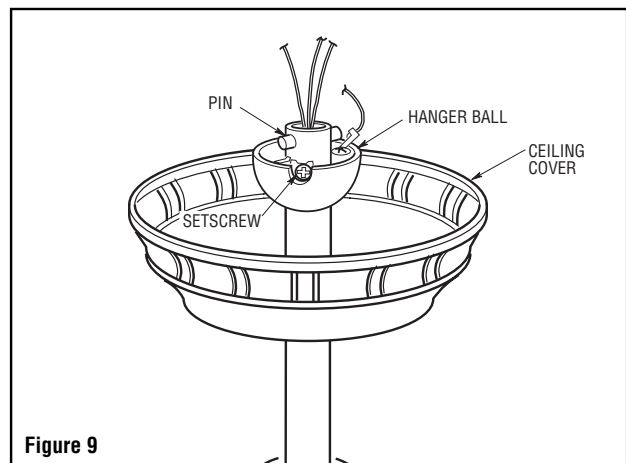

Figure 9
11. Reinstall the hanger ball (Figure 9) on the downrod as follows. Route the three 80" motor leads through the hanger ball. Position the pin through the two holes in the downrod and align the hanger ball so the pin is captured in the groove in the top of the hanger ball. Pull the hanger ball up tight against the pin and securely tighten the setscrew in the hanger ball. A loose setscrew could create fan wobble.